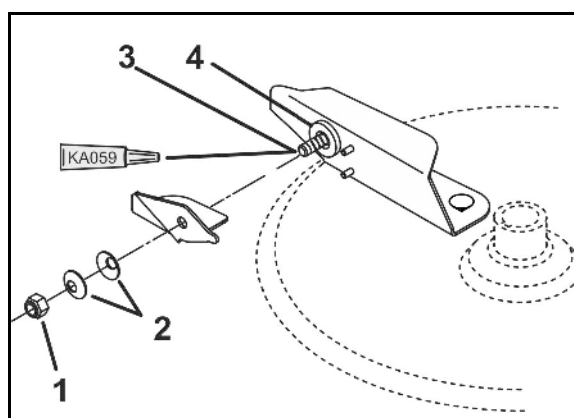

Fig. 58
1. Loosen the rear lock nuts on both sides when viewed in the direction of travel (see arrow) (Fig. 58/1) by turning them anti-clockwise.
2. Turn the nuts on both sides evenly to the left when viewed in the direction of travel (see arrow) (Fig. 58/2).
The adjustment travel of the nuts (Fig. 58/2) must be equal on both sides of the floor belt. Do not turn either nut (Fig. 58/2) more than a ½ spanner turn. Tighten the lock nuts and check whether the belt conveyor is driven evenly again.